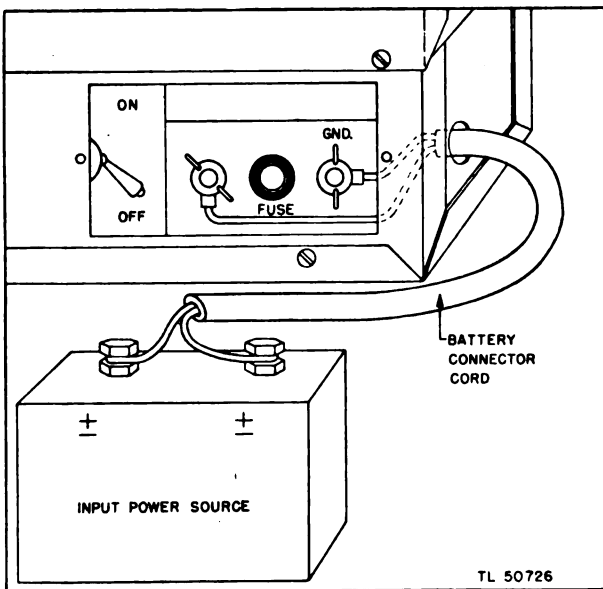

Figure 7. Input terminal block, Voltage Converter PP-49/VVX-1 or PP-50/VVX-1X.
j. Check fuse (fig. 7). Use the following ratings:
(1) A 40-ampere, 4-AG fuse must be used for 6-volt operation of Voltage Converter PP-49/VVX-1, and a 20-ampere, 4-AG fuse for 12-volt operation.
(2) A 20-ampere, 4-AG fuse must be used for 12-volt operation of Voltage Converter PP-50/VVX-1X, and a 10-ampere, 3-AG fuse for 24-volt operation.
k. Install battery connector Cord CX-76/VVX-1 (fig. 7) as follows:
(1) Insert battery connector cord through hole in the end of the chassis.
(2) Fasten lugs (on the end of the cord) on the $\frac{1}{4}$ -20 input terminal bolts by means of wing-nuts.